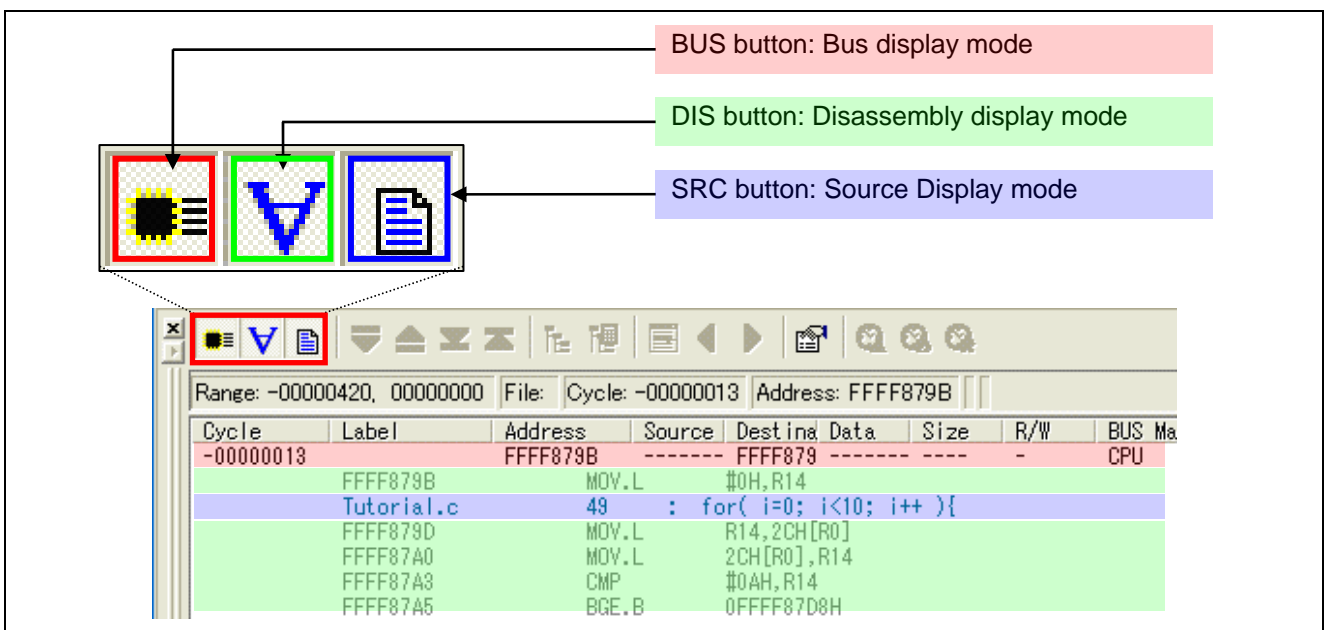

Figure 4.65 [Trace] Window Display Modes
(7) The [Trace] window display modes are shown in Figure 4.65.
Figure 4.65 also shows a window display example where the bus display, disassembly display, and source display modes are all enabled.